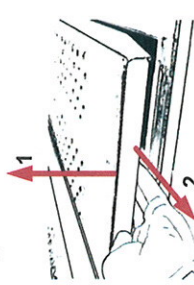

Fig. 13
3. Lift the rear of the skid and slide out slightly (fig 13).